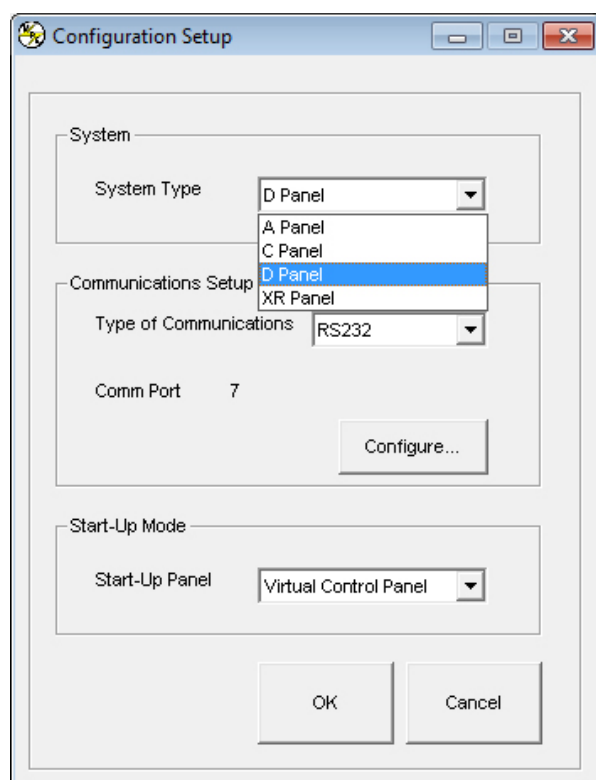

Figure 4.1. RIS Panel Configuration Setup
2. Communications interface: RS232, RS485, IEEE-488 GPIB, LXI TCP/IP Ethernet, simulated, or others depending on future developments. Figure 4.1, "RIS Panel Configuration Setup" displays the Applications Setup Window. Address requirements are: